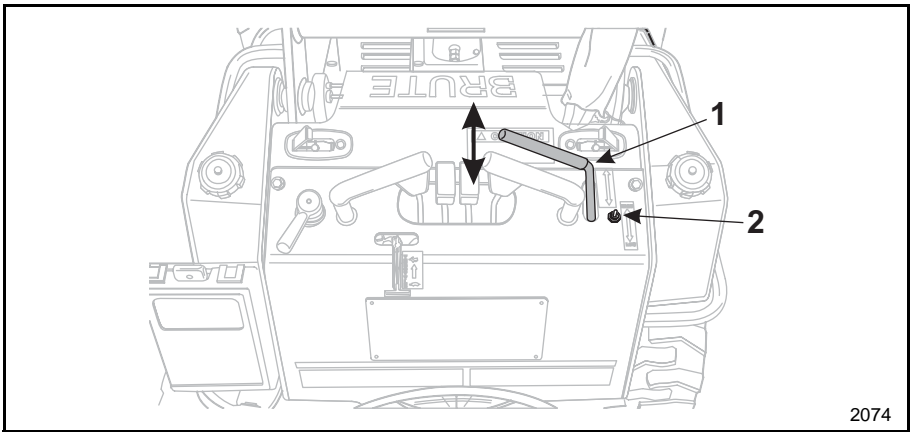

Figure 1-5 Auxiliary Attachment Controls
10. Attach the hydraulic hoses to the quick connects. See **Figure 1-5**.
- a. With the engine OFF, move the AUXILIARY control lever (Item 1, **Figure 1-5**) toward the hand hold, or the FORWARD position, or move the lever BACKWARD into the REVERSE detent position. This will release the hydraulic pressure locked in the auxiliary hydraulic lines. Leave the control lever in the REVERSE detent position.